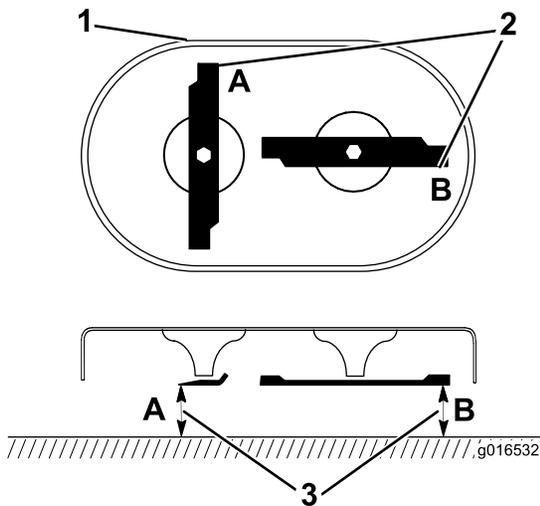

Figure 40
1. Rotate the blades to the position shown in Figure 40.